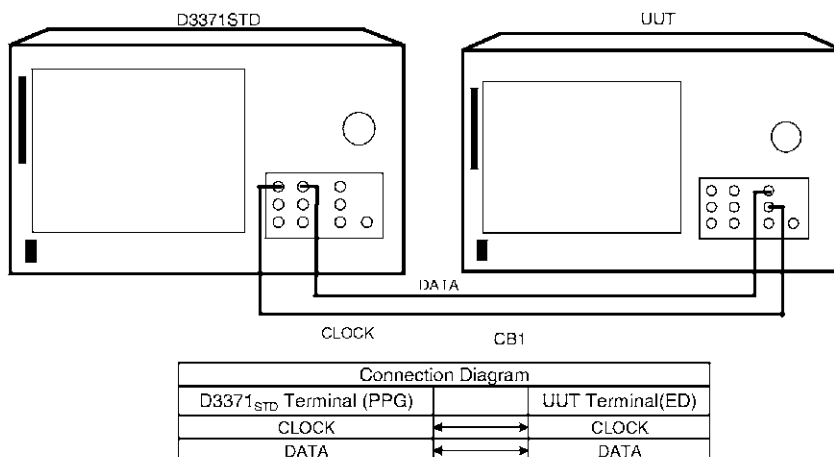

Figure 1-11 Setup of Error Phase Analysis Test
1. Connect equipment as shown in Figure 1-11.